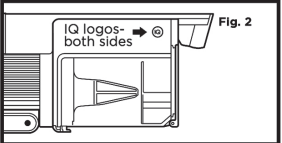

Fig. 2
- Locate the sensors inside the nozzle of the hand vacuum. The sensors are on the interior walls of the nozzle, about 3 inches down the air path, aligned with the IQ logos (Fig.2) on the exterior.